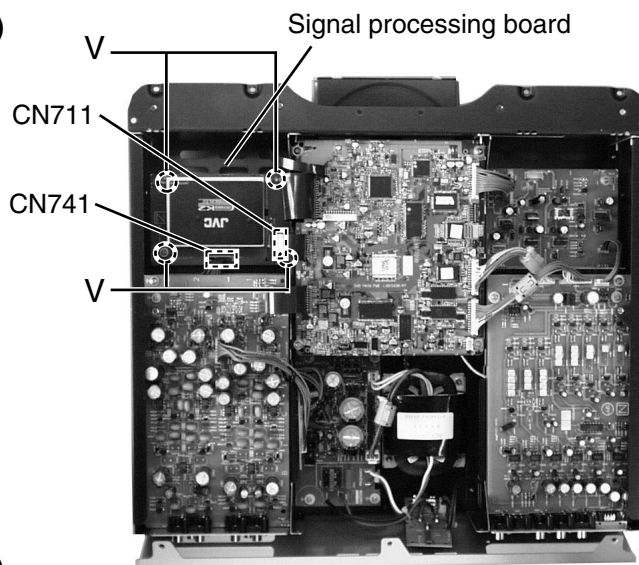

Fig.19
■ Removing the signal processing board (See Fig.19)